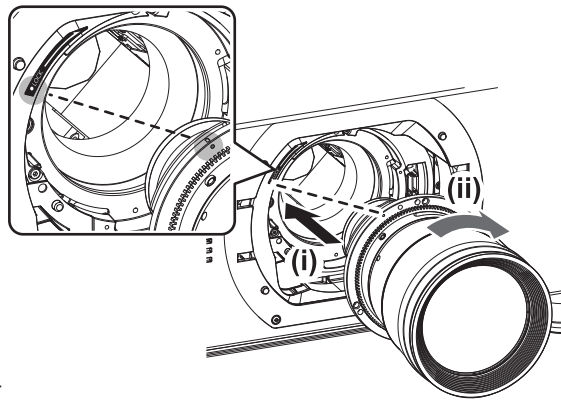

Fig. 2
- 2) Insert the projection lens by aligning the mark on the projection lens (orange) with the mark on the projector (○ to the left of LOCK) and turn clockwise until it clicks. (Fig. 2)**
3) While pressing the lens release button, remove the projection lens by turning it counterclockwise. (Fig. 2)